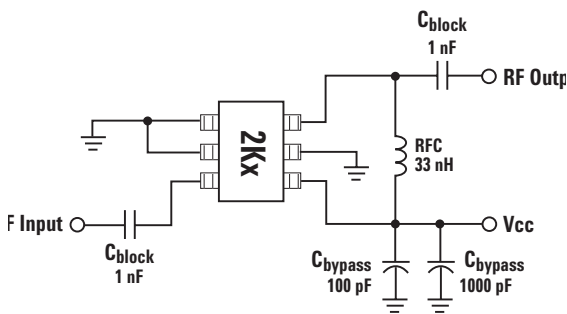

Figure 1. ABA-32563 Production Test Circuit.
1. Measurements taken on  $50\ \Omega$  test board shown on Figure 1. Excess circuit losses had been de-embedded from actual measurements. Standard deviation and typical data based on at least 500 parts sample size from 2 wafer lots. Future wafers allocated to this product may have nominal values anywhere within the upper and lower spec limits.